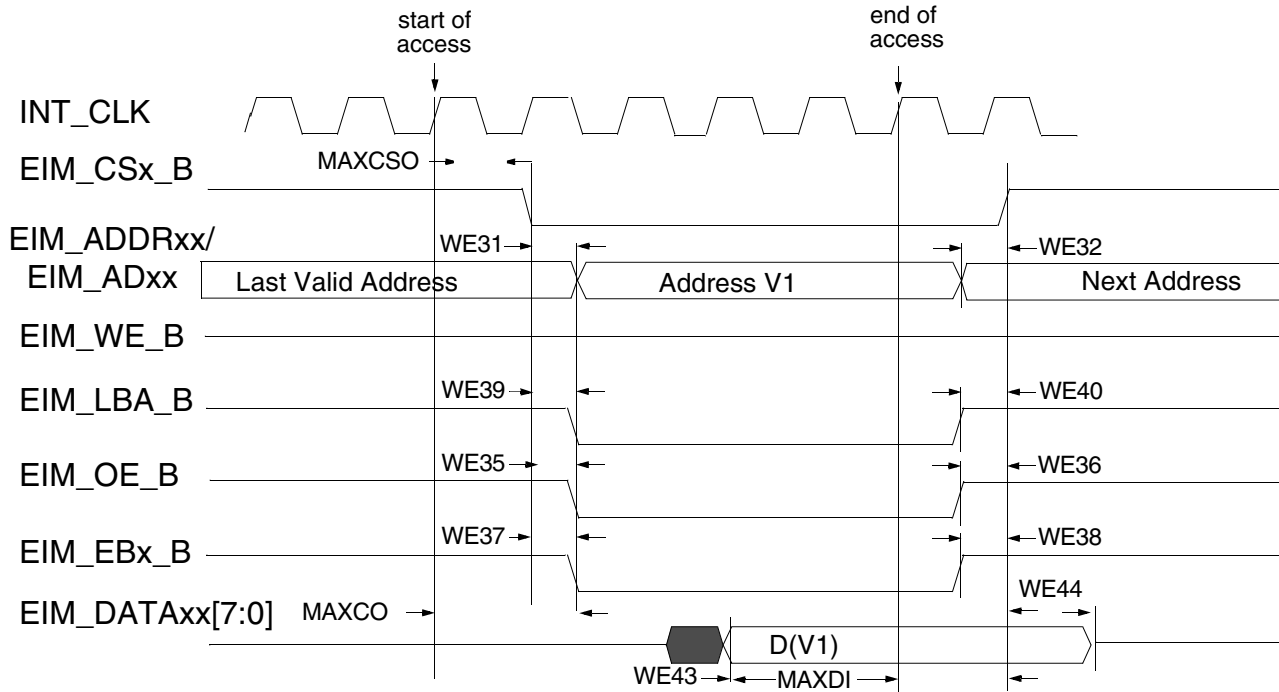
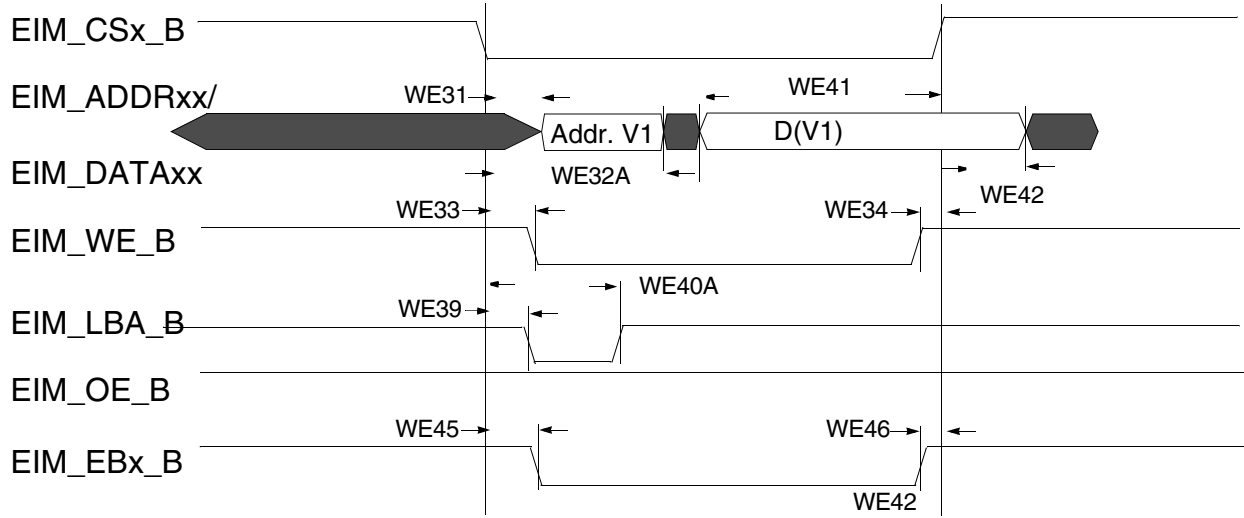
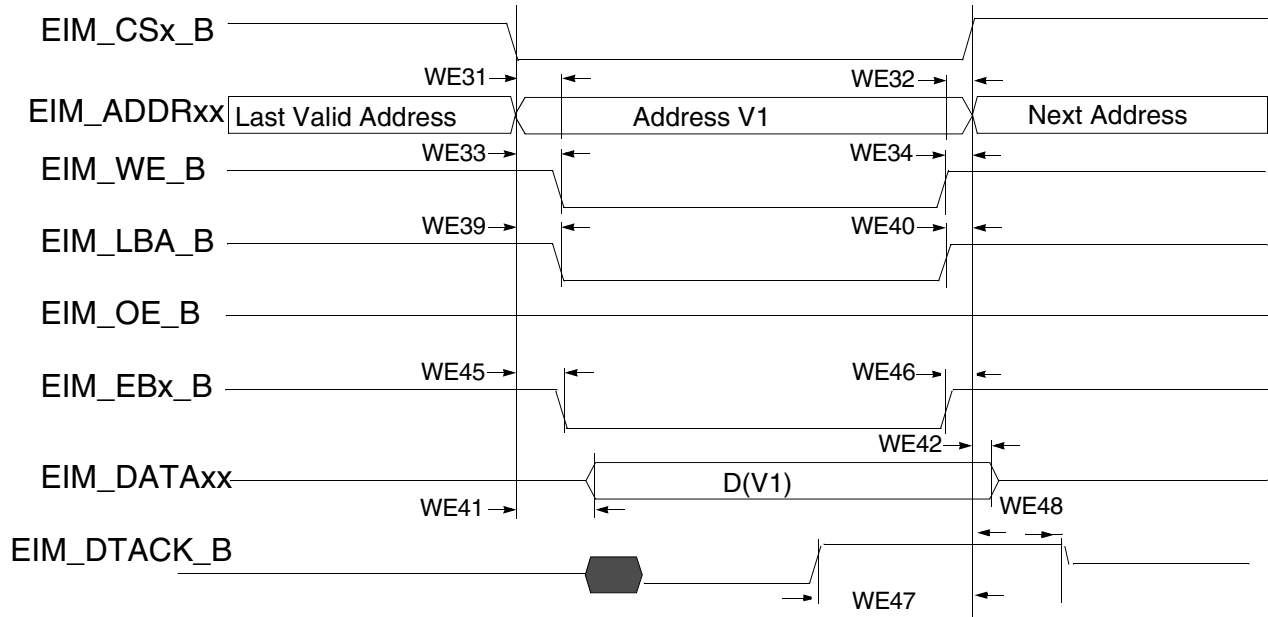

Figure 16. Asynchronous Memory Read Access (RWSC = 5)
Figure 19. Asynchronous A/D Muxed Write Access
Figure 21. DTACK Mode Write Access (DAP=0)
Figure 16 through Figure 21, and Table 45 help you determine timing parameters relative to the chip select (CS) state for asynchronous and DTACK EIM accesses with corresponding EIM bit fields and the timing parameters mentioned above.
Asynchronous read & write access length in cycles may vary from what is shown in Figure 16 through Figure 19 as RWSC, OEN and CSN is configured differently. See the *ii.MX 6SoloX Applications Processor Reference Manual (IMX6SXRm)* for the EIM programming model.